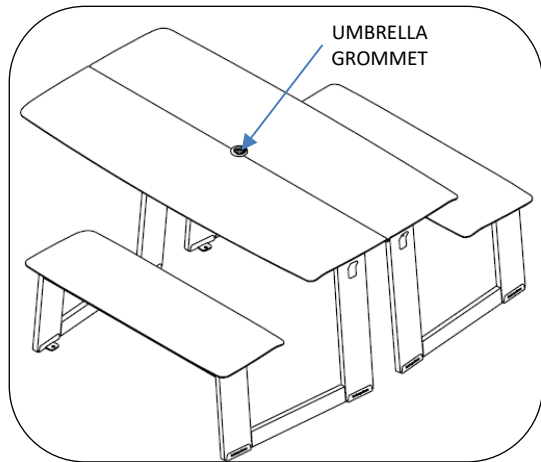
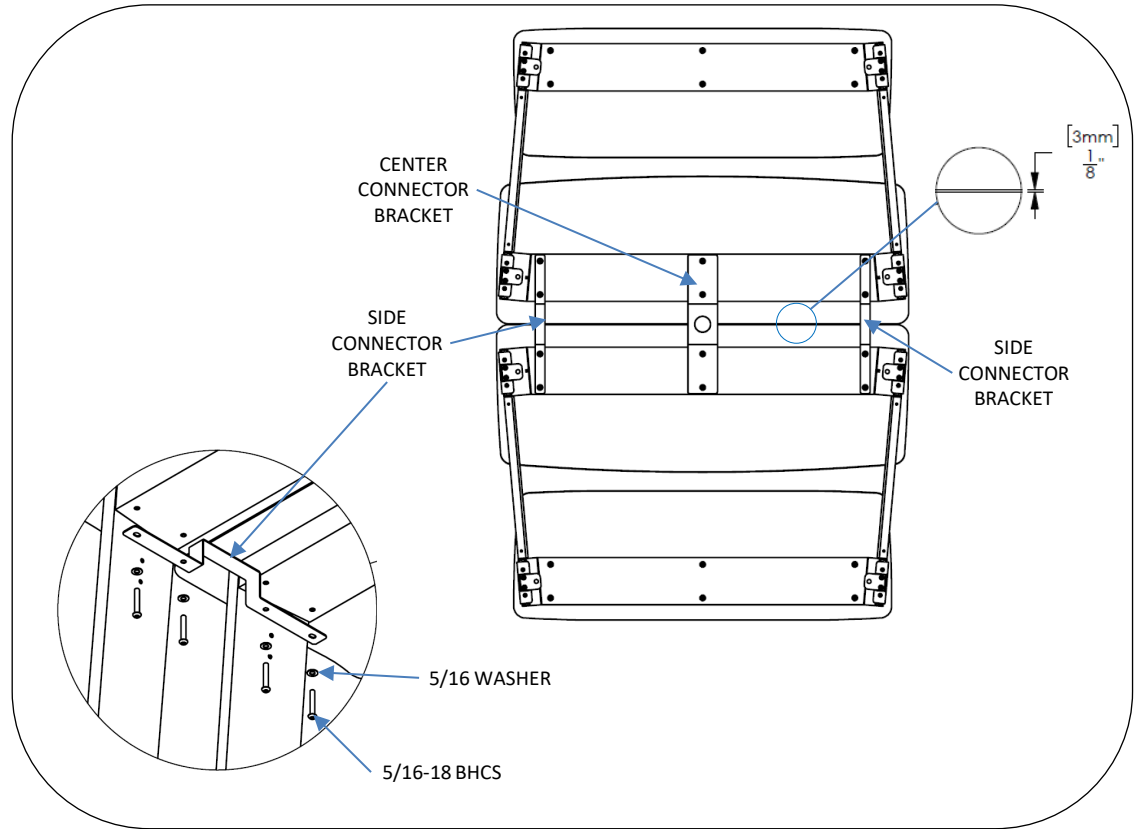

Fig. 3
Fig. 2
1. Set units in position and facing front-to-front. The gap between the tabletops will be approximately  $1/8''$  (see Fig. 2). Left and Right Triple units must be aligned as shown in Fig. 3.
2. Using a  $3/16''$  hex, uninstall the 5/16-18 button head screws and washers on both units on the same side of each unit corresponding to the connector bracket being installed. Install the connector bracket with the previously removed hardware as shown in Fig 2.
5. If the umbrella hole option is present on units, install the provided umbrella grommet in the opening of the connected tables (see Fig. 3). Follow umbrella installation instructions.